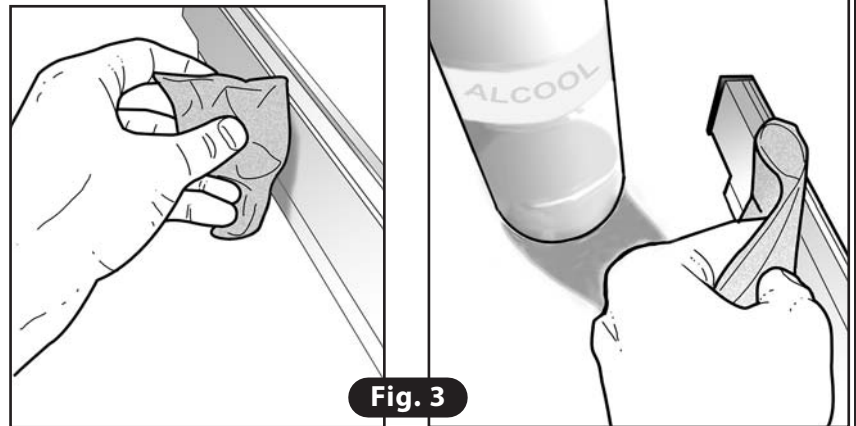

**Fig. 2**
- 2) Remove the Teflon covering (**Fig. 2**).